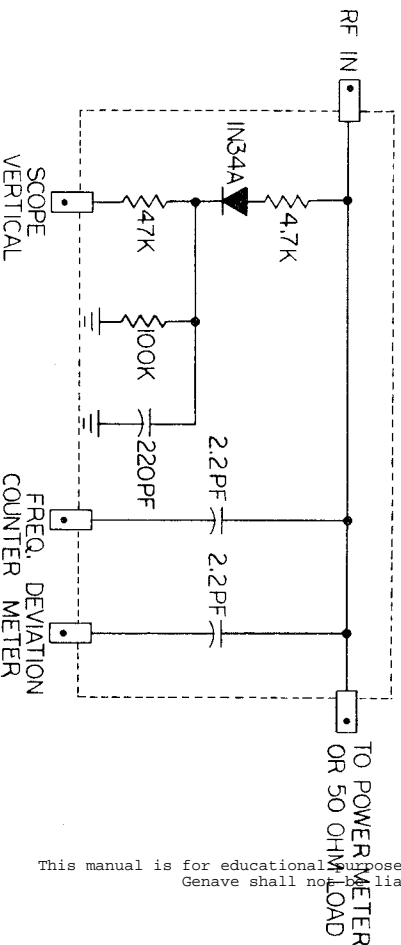

Figure 2
- a. Power Meter, 50 Watts @ 54 MHz, and/or Relative Output Indicating Device (See Figure 2).
1. Connect the transmitter to the 50 ohm dummy load through the relative output indicating device (See Figure 2).